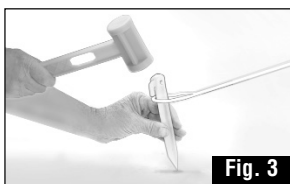

Fig. 3
4. Slip loop on each guyline over plastic stake and drive in at a slight angle to secure. (Fig. 3)